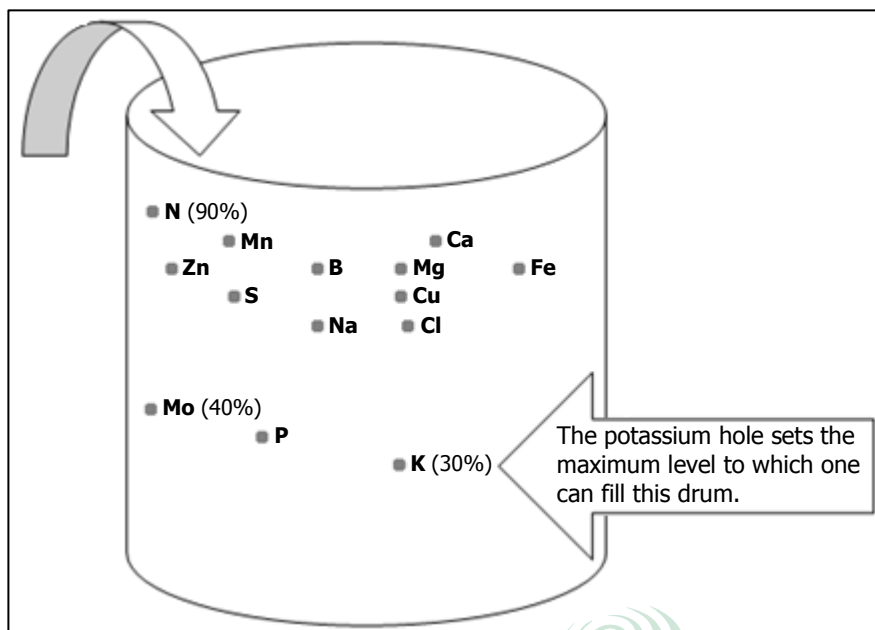

Figure 4.1: Illustration of Most Limiting Essential Nutrient Element
lowest percentage of its optimum concentration, which in the illustration below (figure 4.1) is K. Thereafter, you can fill the drum to the level where phosphorus (P) becomes the most limiting element.
Getting the N level to 100% and not the K level will not enable the plant to produce at 100% capacity. Although molybdenum is required in very small quantities compared to nitrogen, the shortage of this element will still cause the plant to produce at only 40% of its capacity in the illustration (figure 4.1).